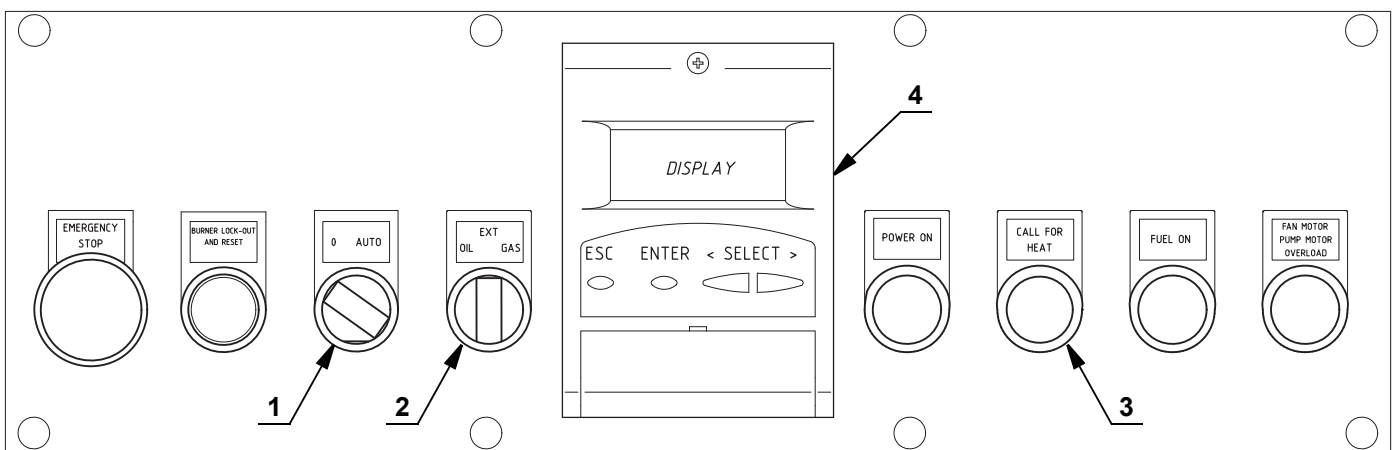

Fig. 37
Position the selector 1)(Fig. 37) in “**AUTO**”.
Close the remote controls and position the selector 1)(Fig. 37) to "AUTO".
- 1 with the AZL device 4)(Fig. 37);
Positioning the selector 2)(Fig. 37) to "EXT" activates the remote selection of the fuel. In this position, if there is no remote selector, the AZL device defines the priority fuel and the selected fuel is shown on the display.